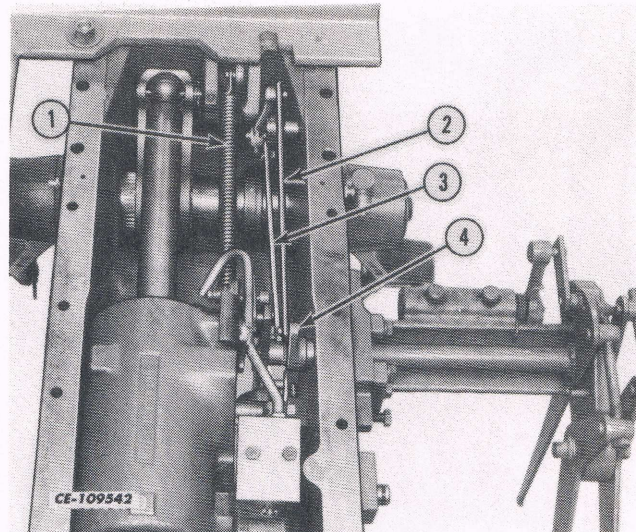
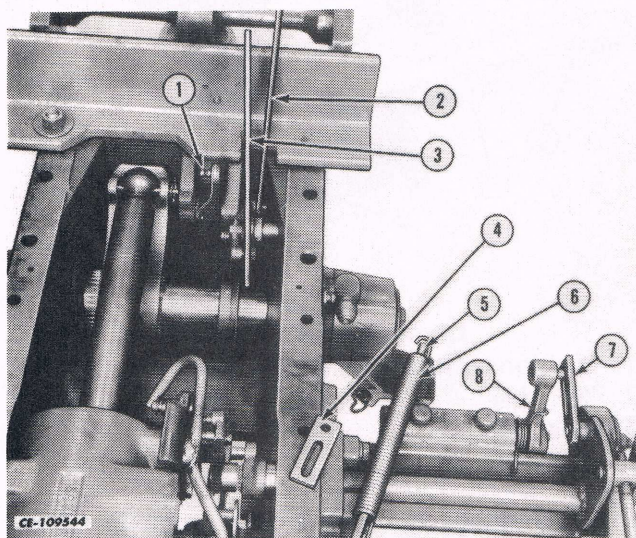

Fig. 10
Fig. 12
13. Remove the positioning link (2) from the slow motion actuating lever assembly (4). See Fig. 10.
14. Remove the walking beam (3) to valve link from the main valve actuator assembly. See Fig. 10.
15. Remove the sensing beam spring and bar (1, Fig. 10) from the eccentric plate assembly and draft control link assembly (1, Fig. 12).
16. Remove the trigger to quadrant link (4). (Note that the slot is to the rear in this position.) See Fig. 12.